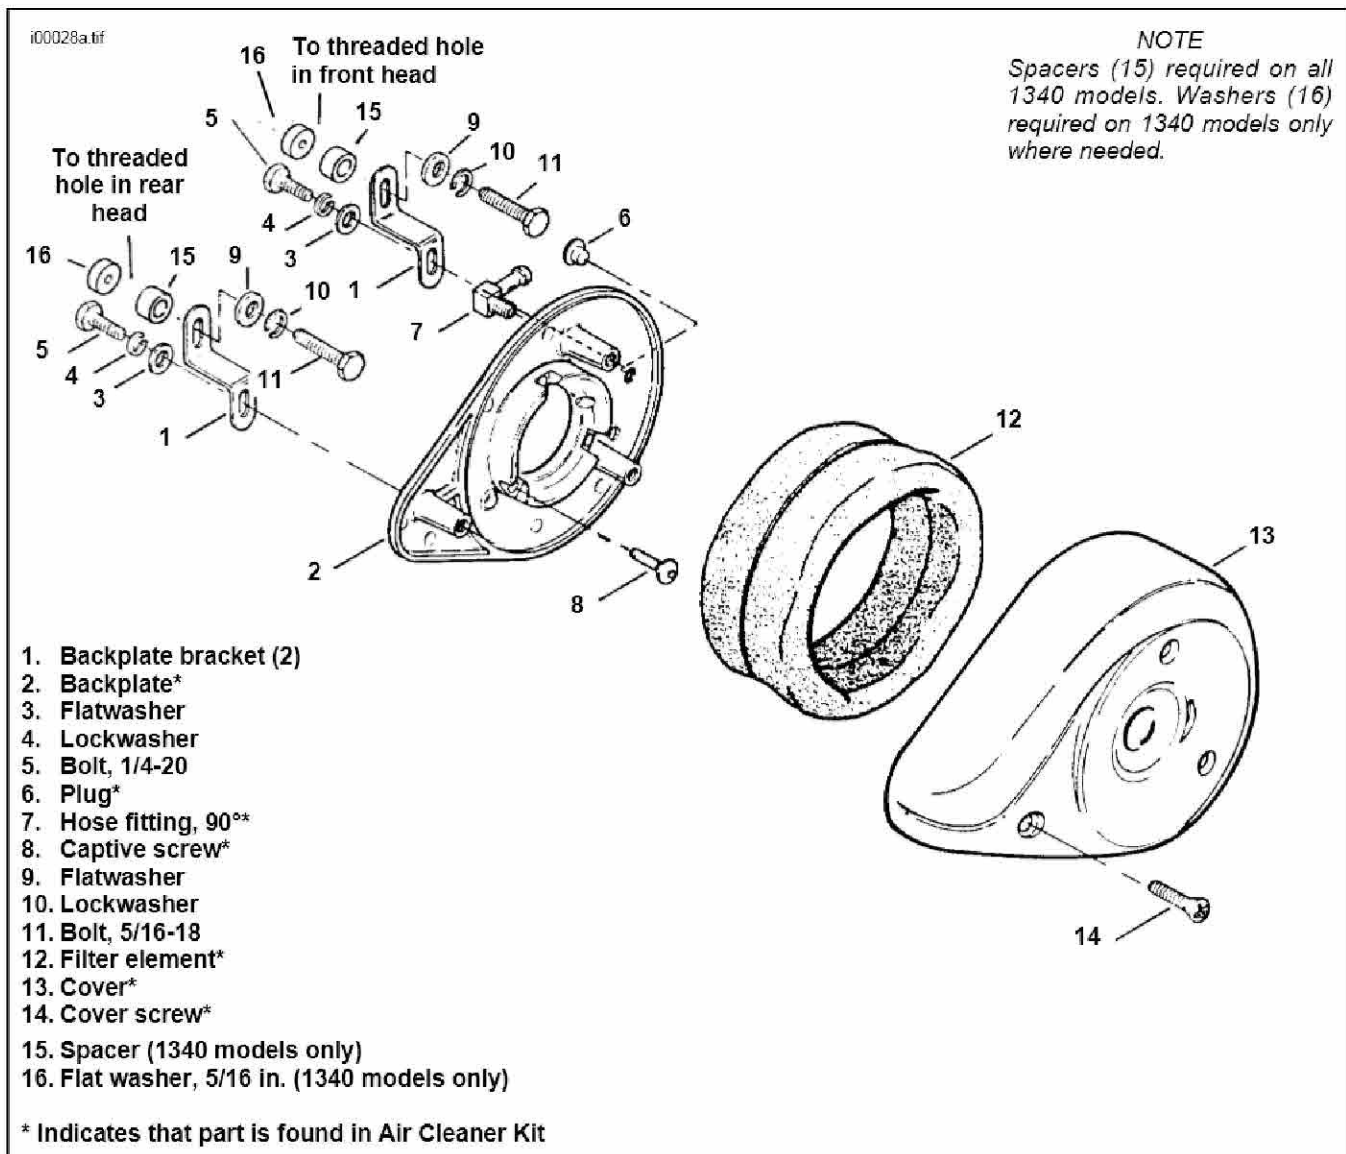

Figure 1. Air Filter Mounting - 1986-1990 XL models, 1984-1992 Evolution 1200 and 1340 models.
- See Figure 1. Attach narrow slotted end of bracket (1) to upper front hole on rear of backplate (2) using the flatwasher (3), lockwasher (4) and 1/4-20 bolt (5) from mounting kit. Tighten bolt (5) finger tight.
- To install remaining bracket (1) to the rear hole of the backplate, repeat Step 1.
- Remove rubber plug (6) from lower tapped hole in back of backplate and install hose fitting (7). Crankcase vent hose may be connected later.
- Place a new gasket between backplate and carburetor flange and secure with the three captive screws (8). Tighten screws (8) to 3-5 ft-lbs.
- 1988 - 1990 XL Models Only.** Position brackets (1) over tapped holes in cylinder heads. Secure brackets with flatwashers (9), lockwashers (10) and 5/16-18 bolts (11) from mounting kit. Tighten bolts (11) to 10-12 ft-lbs.
- 1990 - 1992 1340 Models Only.** Position bracket (1) over tapped holes in cylinder heads. Insert spacers (15) and flat washers (16) as required between cylinder head and brackets. Secure brackets with flatwashers (9), lockwashers (10) and bolts (11) from mounting kit. Tighten bolts (11) to 10-12 ft-lbs.
- Tighten bolts (5) and place filter element (12) on backplate. Install the cover (13) and secure with screws (14).
- Connect crankcase vent to 90° fitting (7).